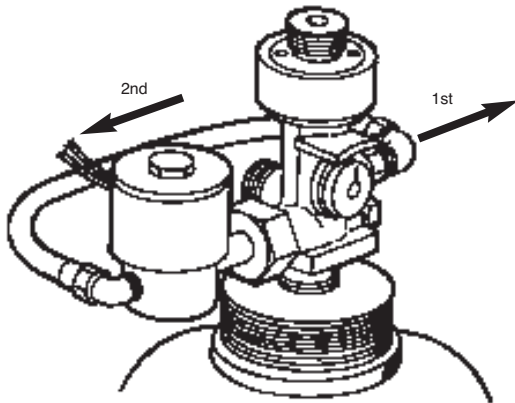

FIGURE 7
- When removing the solenoid valve, first unscrew the actuation hose from the elbow in the ball check port. See Figure 7. Next, remove the solenoid valve hex nut from the fill port. See Figure 7. Lastly, remove the elbow and the adaptor from the ball check port.